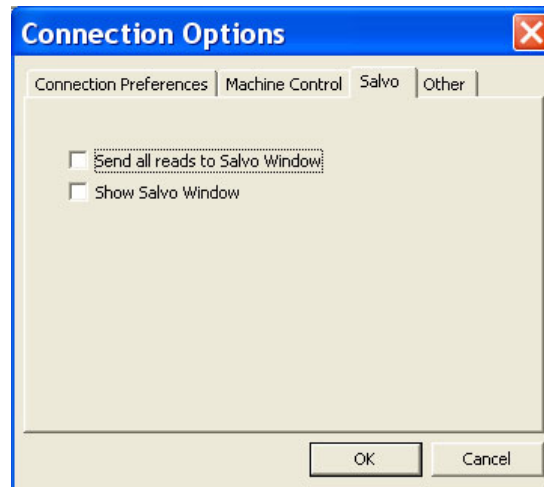

Figure 17-6. Connections Options Dialog Box
- 3 Again from the menu bar, select 'Tools > Options'. The 'Connections Options' dialog box appears, as shown in Figure 17-6.